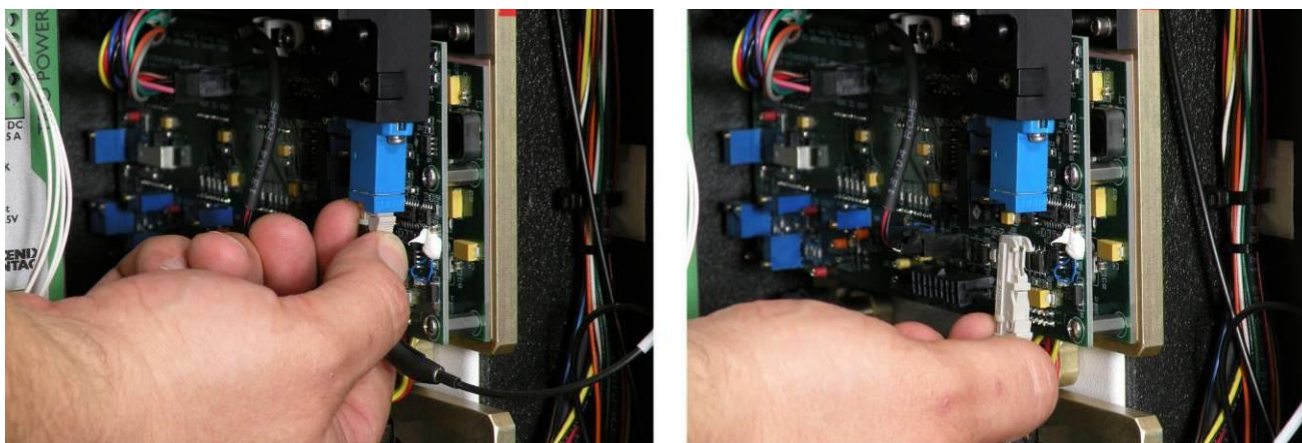

Figure 128. Remove fiber connection
3. Remove the fiber connection. Push in the white clip and pull down. Take care not to kink the fiber (Figure 128).